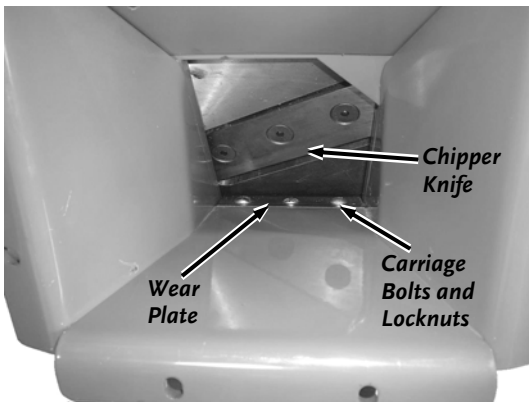

Figure 40
2. Remove the three Locknuts and Carriage Bolts that attach the Wear Plate to the Chipper Assembly with a 7/16" wrench and then remove the Wear Plate (**Figure 40**).